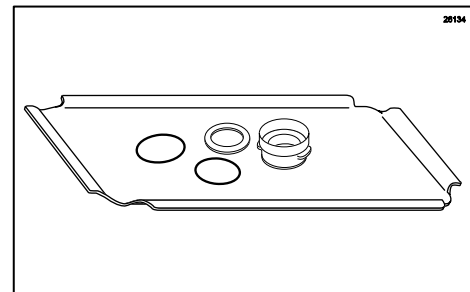

Figure 90
6. Remove each part from the sanitizer solution and place them on a sanitary tray to air dry. (See Figure 90.)